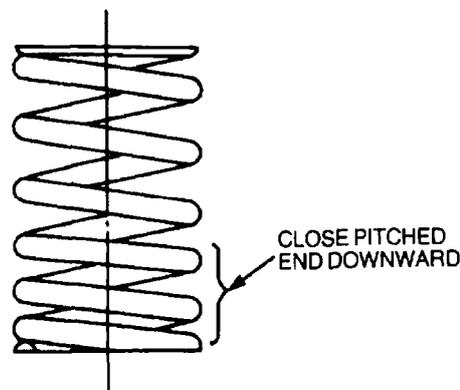

Figure 11 Valve Spring – Installed Position
- cc. Position the inner and outer springs over their respective valve with the tighter wound coils towards the cylinder head (Figure 11).